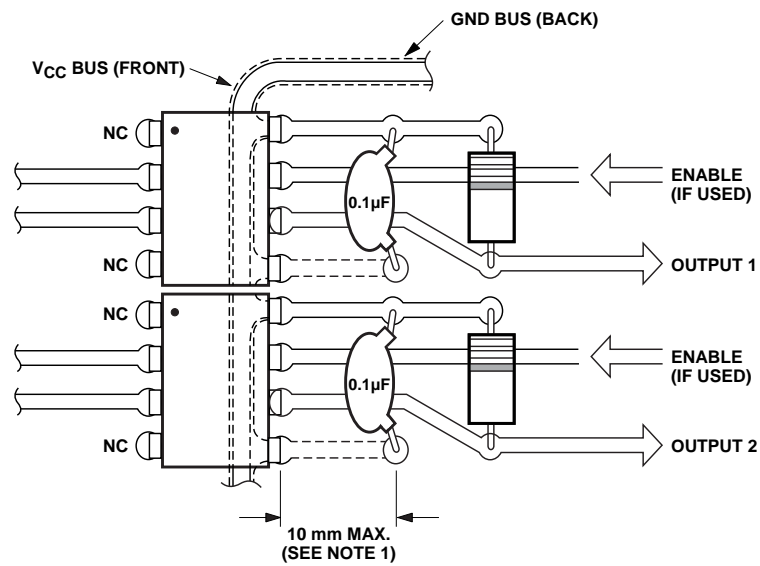

Figure 15. Recommended printed circuit board layout.
1. Bypassing of the power supply line is required, with a 0.1  $\mu\text{F}$  ceramic disc capacitor adjacent to each optocoupler as illustrated in Figure 15. Total lead length between both ends of the capacitor and the isolator pins should not exceed 20 mm.